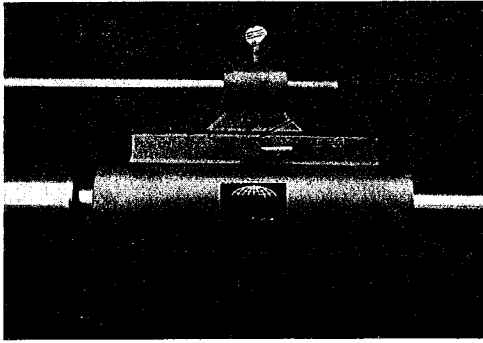

Fig 7 Feed Unit
1. Turn the valve on the feed unit to "OPEN" position and pull the complete feed unit away from the block. Tighten the thumb screw in the feed unit to secure it on the torsion bar. Install the square head set bolt in the second threaded hole of the torsion bar bracket and tighten snugly against the cylinder block to stabilize the torsion bar assembly. Turn the valve on the feed unit to the "CLOSED" position. (See Fig 7)